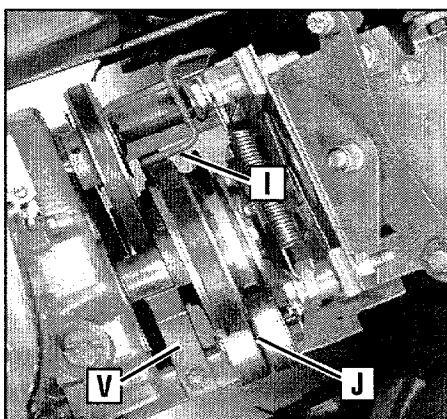

Figure 5-12: Top view of belts and pulleys.
8. Replace the forward drive belt in the Low (or High) speed grooves of the engine drive pulley and the transmission pulley. Be sure the belt is to the inside of the wire formed belt guide (I, Figure 5-12) and to the inside of the forward drive idler pulley (J).
2. Slip the forward drive belt down between the rear of the engine forward drive pulley (D, Figure 5-16) and feed the bottom half in between the engine and transmission pulleys (see Figure 5-17). Be sure that the belt is to the inside of the forward idler pulley and forward belt guide (see J and I, Figure 5-12).
3. Slip the forward drive belt down and over the front of the transmission pulley (C, Figure 5-16). **NOTE:** For additional working room, loosen the reverse belt guide (V, Figure 5-12) and twist it out of the way.
**IMPORTANT:** Make sure that the forward drive belt is to the inside of the wire belt guide (I, Figure 5-12) and the forward idler pulley (J, Figure 5-12).
3. Place the belt to the inside of the reverse idler pulley (D, Figure 5-18) and the reverse belt guide (V, Figure 5-12). Then slip the upper end into the groove of the engine reverse pulley (A, Figure 5-18).
4. If the reverse belt guide (V, Figure 5-12) was loosened previously, center the belt guide on the belt and tighten the mounting screw securely.